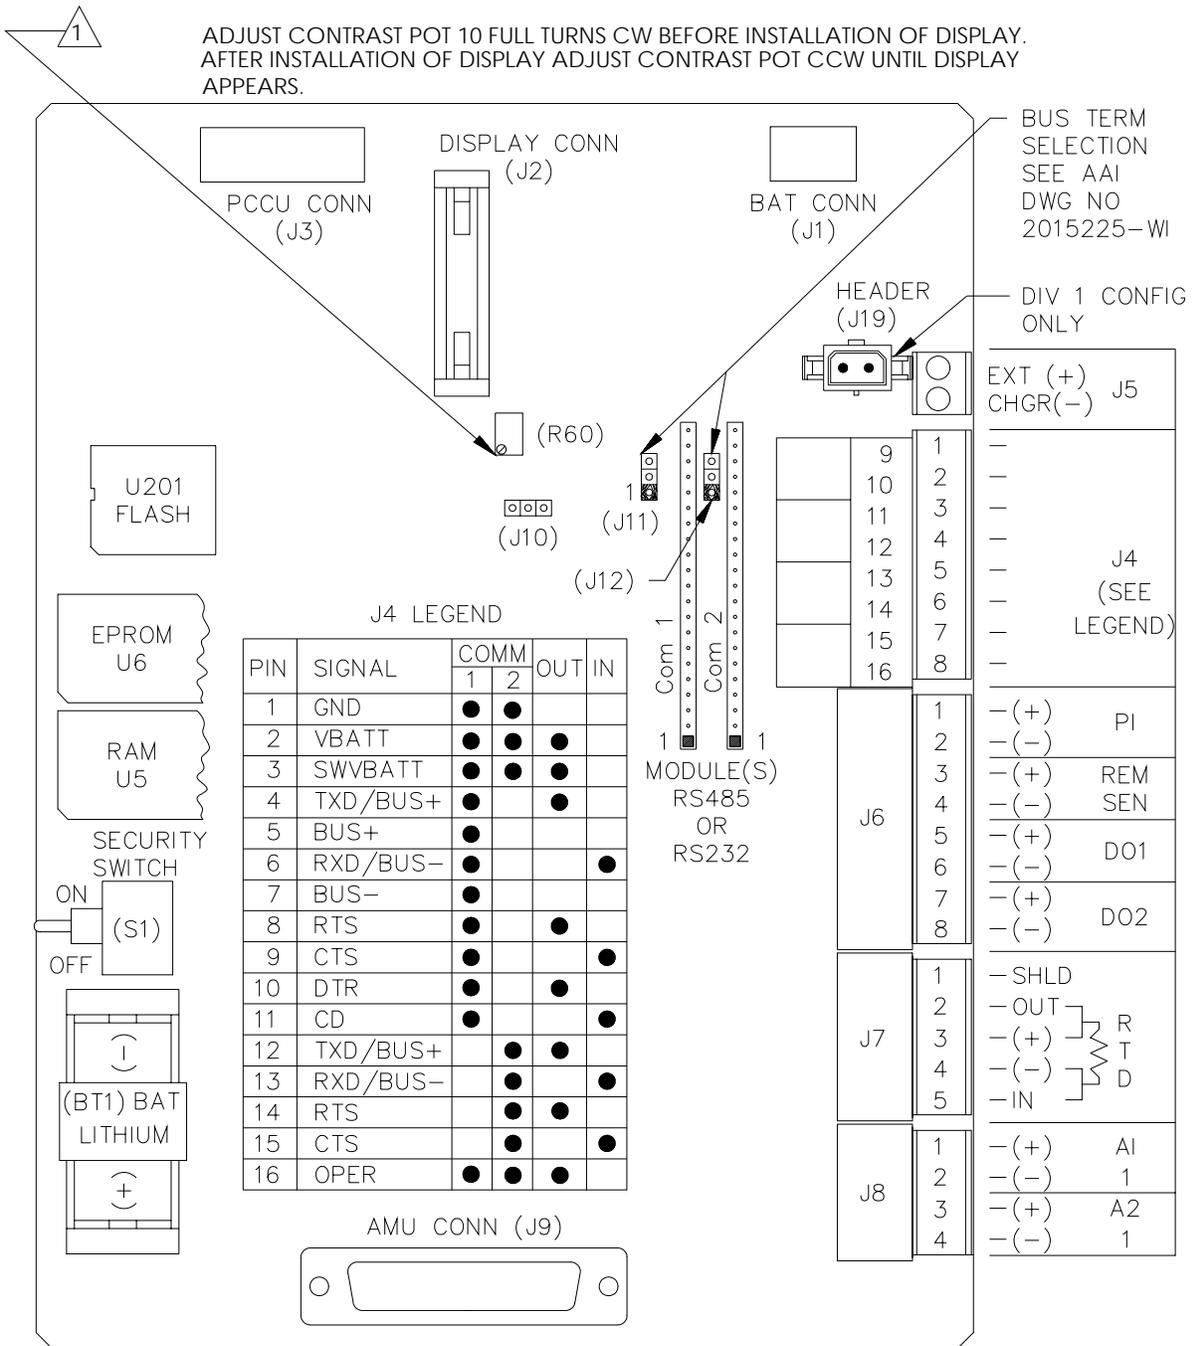

Figure 6-1 Digital Circuit Board Connector/Wiring Location
Figure 6-1** A cold start clears all the data that is stored in RAM as well as resetting all entered variables to their factory default values. Discretionary use of this procedure is advised.
6.	Reinstall Lithium battery BT1 in its Digital Circuit Board mount. During installation of battery, observe correct polarity. Refer to Figure 6-1.